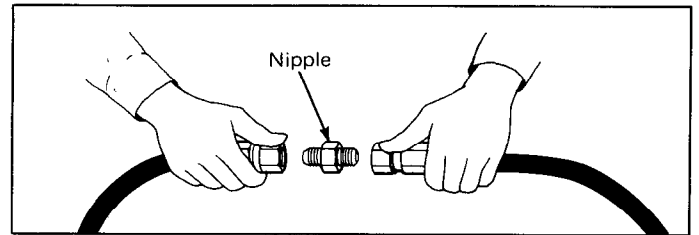

Figure 19. Connect Hoses Together Using a Nipple
- a. Disconnect the sideshift hoses at the sideshift cylinder and connect the ends together using a nipple as shown in Figure 19.